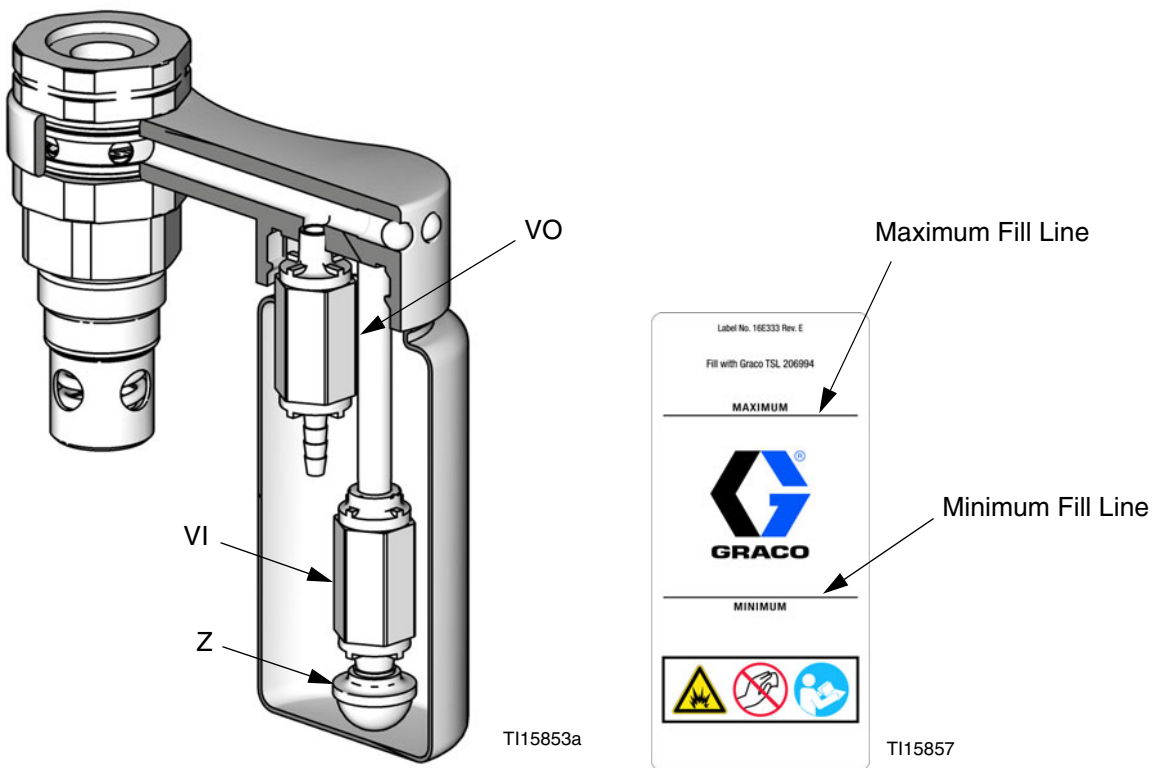

FIG. 3. Cutaway of TSL Reservoir, and Fill Lines
1. Fill the TSL reservoir to the Maximum fill line with Throat Seal Liquid (TSL). See FIG. 3 on page 10.
3. Clean screen (Z) of inlet check valve (VI). If check valves are not sealing and dirty TSL is getting into the wet-cup, replace the check valves (VI, VO). See FIG. 3.